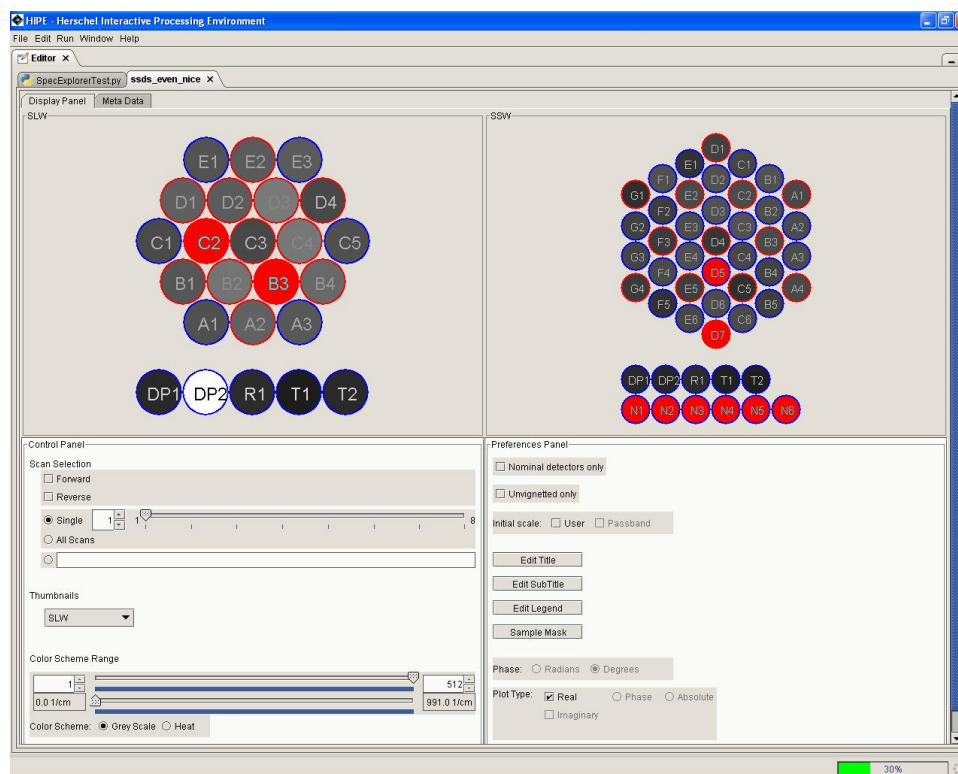
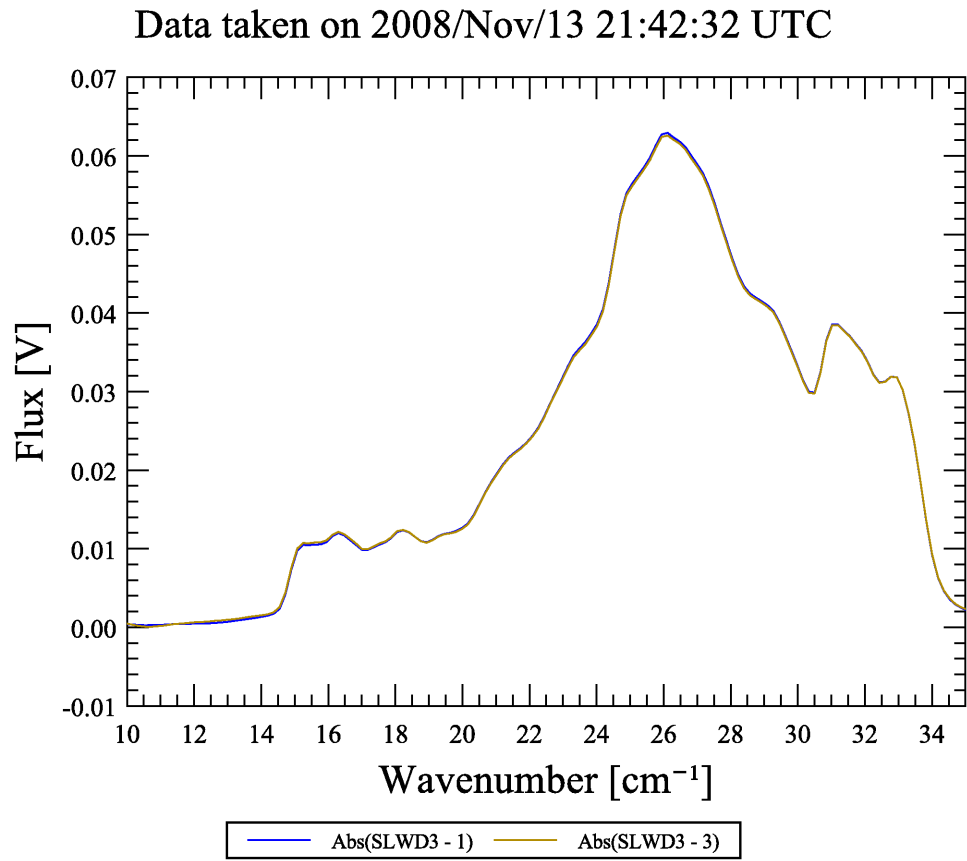

Figure 2.44. SpecExplorer Graphical User Interface.
Figure 2.52. Single plot of the reverse scans 1 and 3.
The Graphical User Interface of the SpecExplorer is divided into four sections: The Bolometer Detector Arrays Spectrometer Long Wavelength (SLW) on the top to the left, the Spectrometer Short Wavelength (SSW) on the top to the right. The Control Panel is on the bottom left and the Preferences Panel is on the bottom right (see the Figure 2.44).
6. In the Detectors Display shown in Figure 2.44, single left mouse click the detector to plot its data, e.g. SLWD3. A new PlotXY window will open with the SSWD3 detector plotted as shown in Figure 2.52.